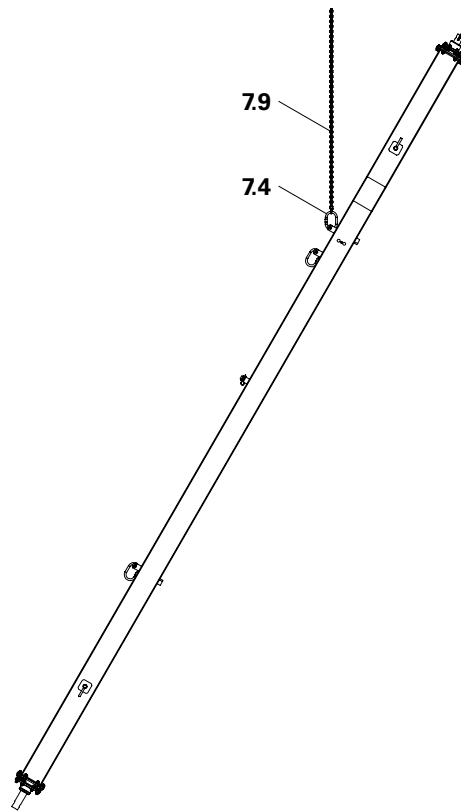

Fig. A3.07
4. Attach Push-Pull Prop RS 1400 to the crane lifting gear and guide to the formwork unit. (Fig. A3.07)